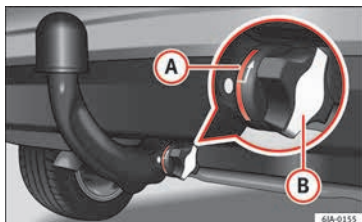

Fig. 200 Correct placement of the ball-headed bar.
- The red mark **A** » **Fig. 200** on the manual regulator signals toward the white mark on the ball-headed bar.